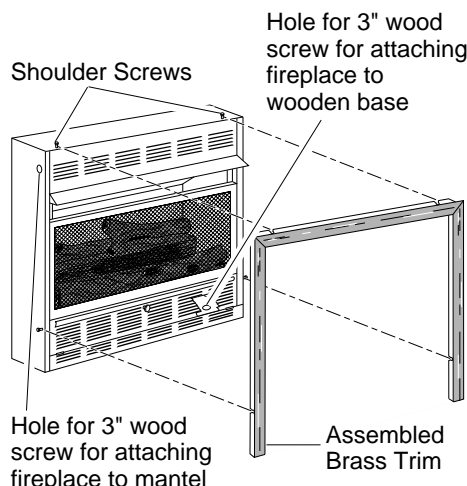

Figure 12 - Attaching Brass Trim to Fireplace
5. Firmly snap brass trim kit on shoulder screws. Shoulder screws are located on fireplace cabinet (see Figure 12).
7. Use two 3" wood screws provided and attach fireplace base to wooden base (see Figure 12).
14. Place brass trim kit on the shoulder screws located on the side and top of the fireplace. Firmly snap the brass trim over the shoulder screws on fireplace (see Figure 12).